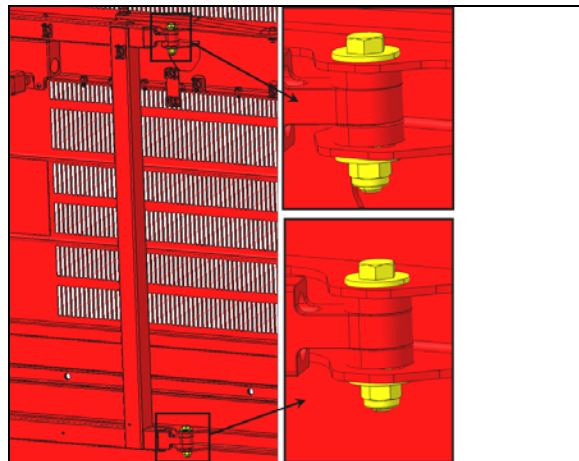

FIGURE 52
4. If the vertical position is out of tolerance, rotate the door using the adjustment provided on the inner side of the door, at the attachment points between the arm and the door (FIGURE 52).